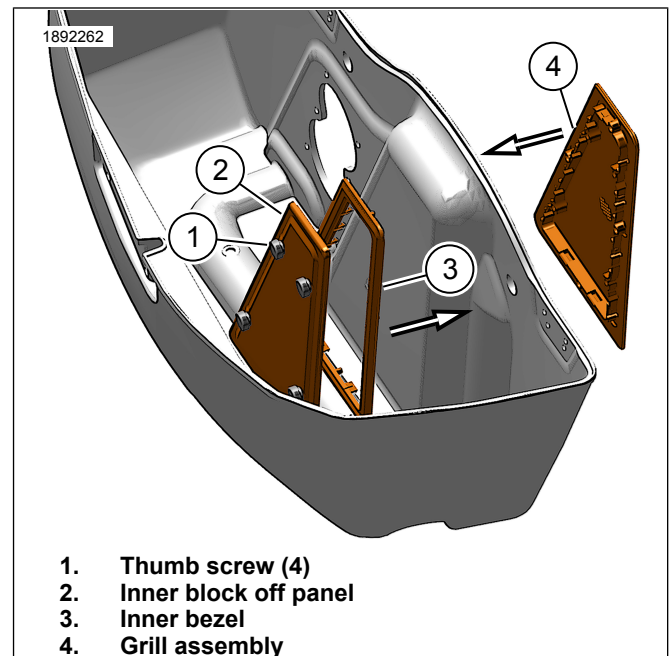

Figure 4. Install Bezel And Panel
4. See Figure 4. Remove masking tape and verify that inner and outer surface of saddlebag around opening is clean and dry.
- a. Remove foam tape backing on grille assembly (4) and install into cut hole.
- b. Insert inner bezel (3) into hole cut in saddlebag and snap subwoofer grill (4) onto tabs on inner bezel.
- d. **When subwoofer is not installed**, install inner block off panel (2) into inner bezel (3) and secure with thumb screws (1).